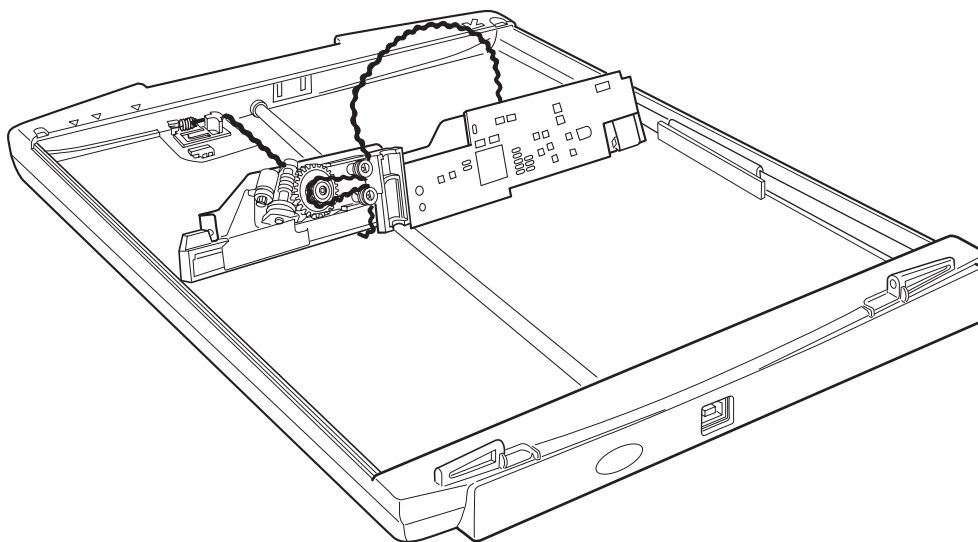

Figure 3-11
- 2) Locate the drive wire as shown in Figure 3-11.